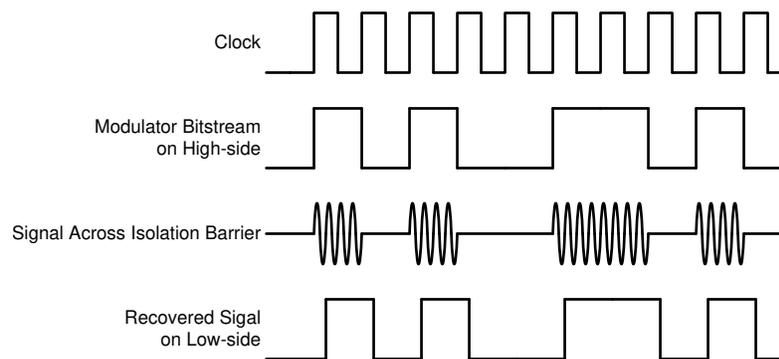

图 7-3. OOK-Based Modulation Scheme
The AMC3306M25 uses an on-off keying (OOK) modulation scheme, as shown in 图 7-3, to transmit the modulator output bitstream across the SiO2-based isolation barrier. The transmit driver (TX) illustrated in the *Functional Block Diagram* transmits an internally generated, high-frequency carrier across the isolation barrier to represent a digital *one* and does not send a signal to represent a digital *zero*. The nominal frequency of the carrier used inside the AMC3306M25 is 480 MHz.
图 7-3 shows the concept of the on-off keying scheme.